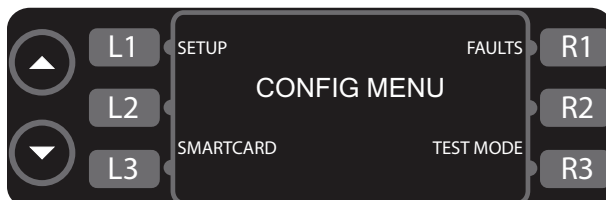
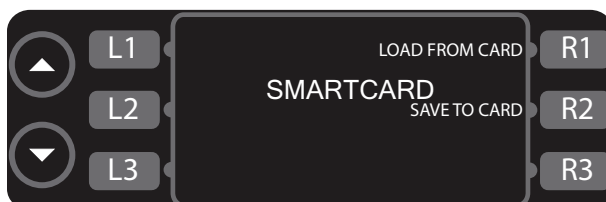

Figure 16: Config Mode
Figure 17: Smart Card Screen
The CONFIG MODE (Figure 16) serves four main purposes:
1. Press L3 (Figure 16) to access the smart card screen (Figure 17).
- Press R1 to load a menu from the smart card to the oven (Figure 17).
- Press R2 to save a menu from the oven to the smart card (Figure 17).
From the CONFIG MODE (Figure 16), press R1 to access the fault counts screen (Figure 20, page 16). The oven will display the number of faults that have occurred.
From the CONFIG MODE (Figure 16), press L1 to access the SETUP MODE. The SETUP MODE allows the user to customize several oven settings - see below for more details.